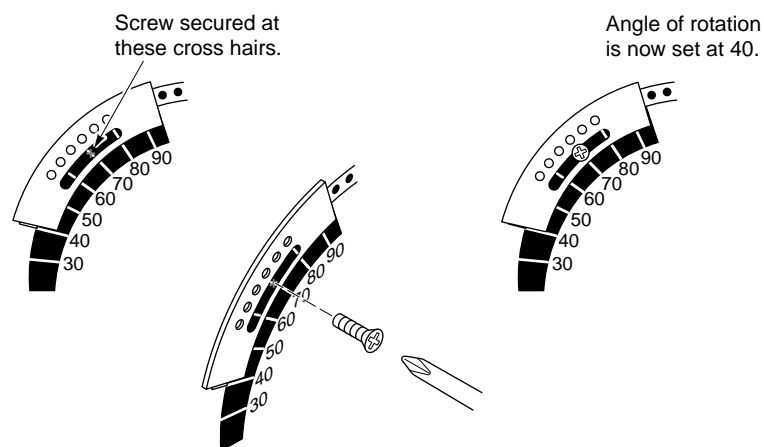

Figure-6 Securing the AM-689 Rotation Limiter.
2. Locate the AM-689 rotation limiter on the actuator so that its edge lines up with the degree graduation on the actuator face which corresponds with the required rotation. See Figure-6.